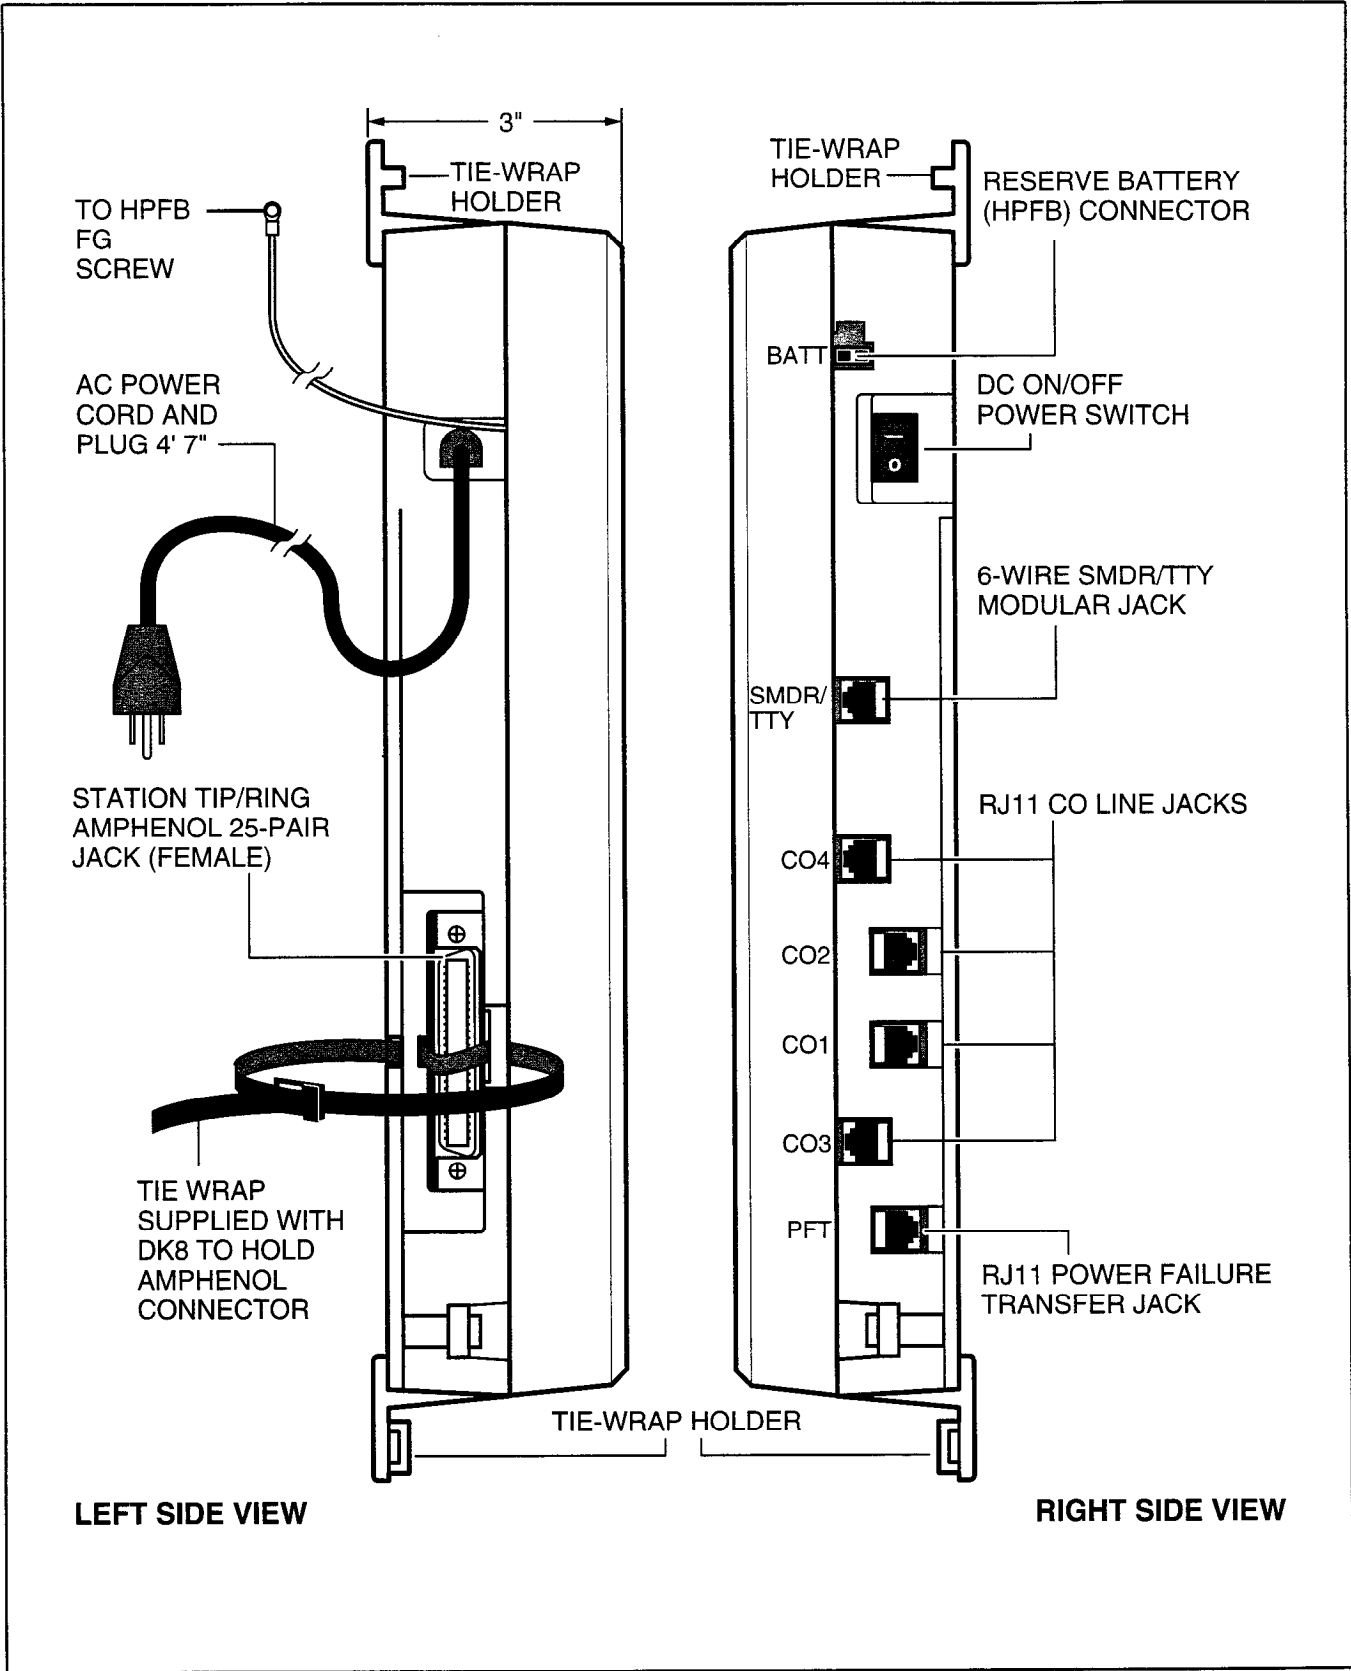

FIGURE 4-3
- 6) Connect a ground wire from the HPFB "FG" screw to the DK8 QPSU8 screw labeled "HPFB6." The ground wire can be fed through the opening by the AC power cord (see Figure 4-3).